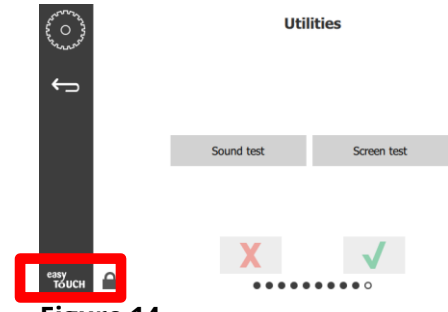

Figure 14
23. Press and hold the easyTouch logo in the lower right corner for 10 seconds. The controller displays Reset Configuration. Press the GREEN checkmark button. (see Figure 14).